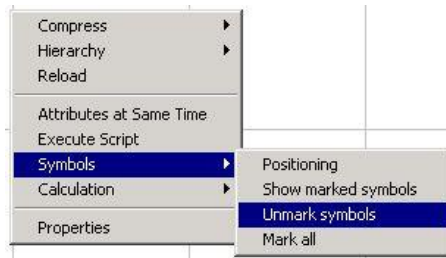

Figure 133: Highlighting – Deselect the Critical Path
When the throughput time calculation is complete, all processes belonging to the critical path are highlighted on one hand, *Please refer to the Figure 135*, and the calculated results are displayed by means of a message on the other hand, *Please refer to the Figure 134*. You can remove the highlighting of the critical path using the context menu of the right mouse button by selecting **Unmark symbols**, *Please refer to the Figure 133*. Highlighting of the start and end symbols is removed by selecting the **Reload** function.
- 4) Click **Remove icon mark**. *Please refer to the Figure 133.*